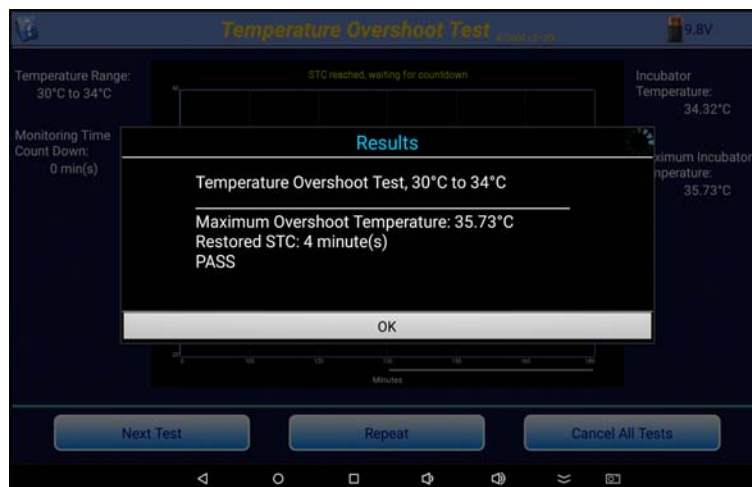

Figure 91: Temperature Overshoot Test Results
vPad-TI monitors the **Average Incubator Temperature (IT)** and checks to see that the **Incubator Temperature** does not differ from **IT** by more than 1.5°C. vPad-TI will display the length of time **STC** has been true using dashed green lines on the display. If this **STC** measurement is true within 15 minutes of first reaching 36 °C, the incubator passes the test requirements. The **Results** will be shown in the dialog box as shown in Figures 91.